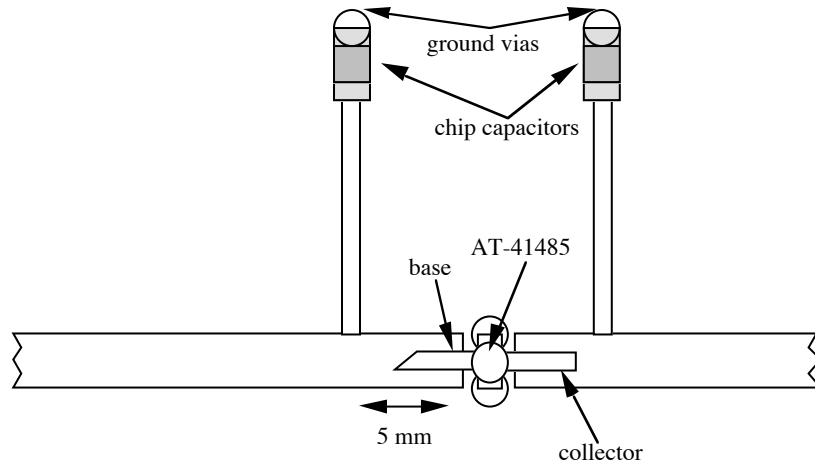

Figure 2. Physical layout of input and output transmission lines, bias stubs, and transistor.
- 1.) With the bias stubs designed, we’re ready to begin laying out the design of the amplifier circuit. Figure 2 below shows a view of the bias portion of the completed amplifier. Use linecalc to find the dimensions (width only) for the base and collector input lines, assuming a 50  $\Omega$  characteristic impedance at the design frequency. At this point the length of these lines is arbitrary and will be set later in the design process. Insert the transistor equivalent subcircuit, connect it to the input and output lines, and attach the bias stubs you’ve designed to the line at least 5 mm away from the transistor. To insert the transistor, select “Insert/Component/Component Library”, and click on the “Workspace Libraries” in the pop-up window. Within this library, right-click on the component name